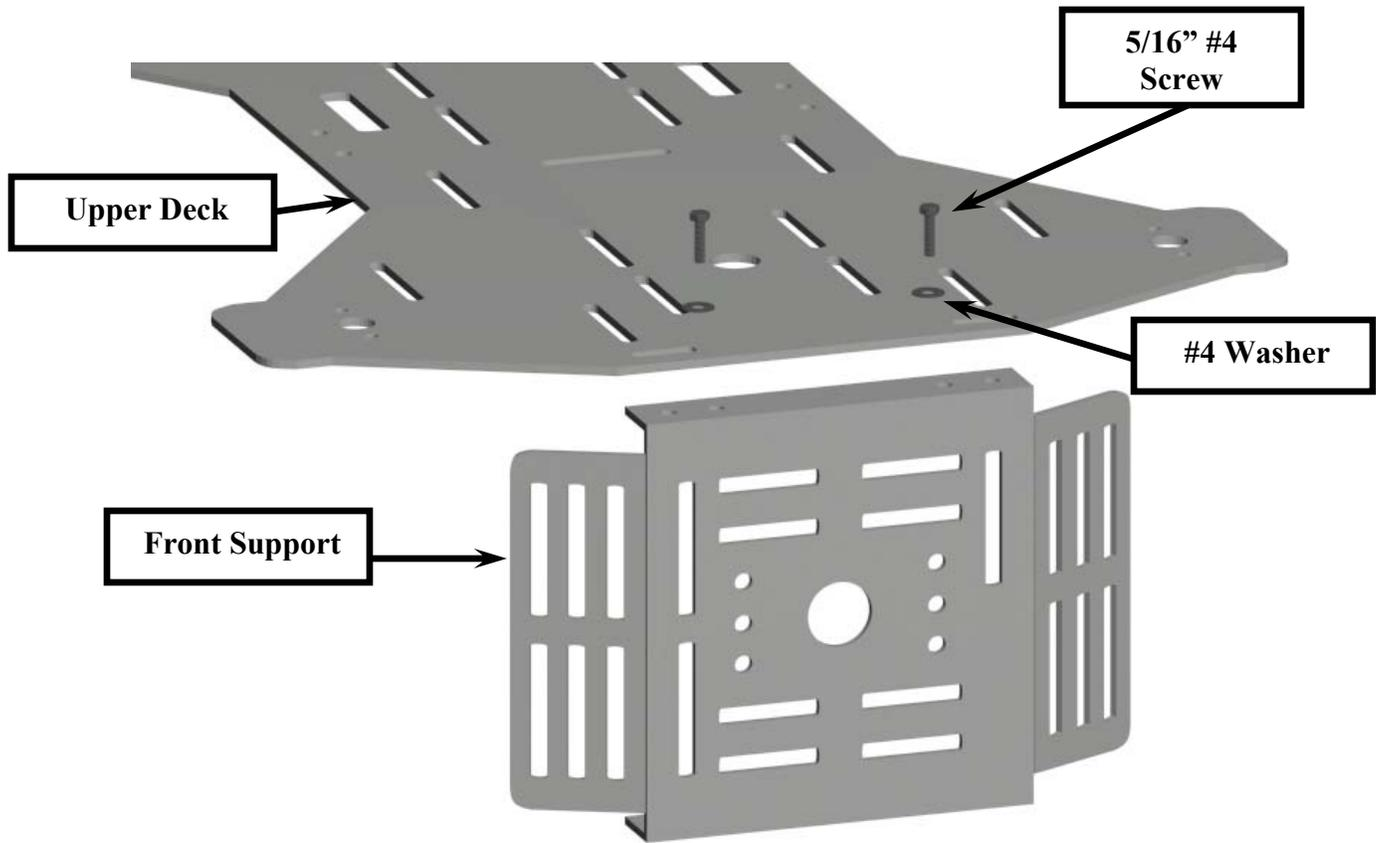
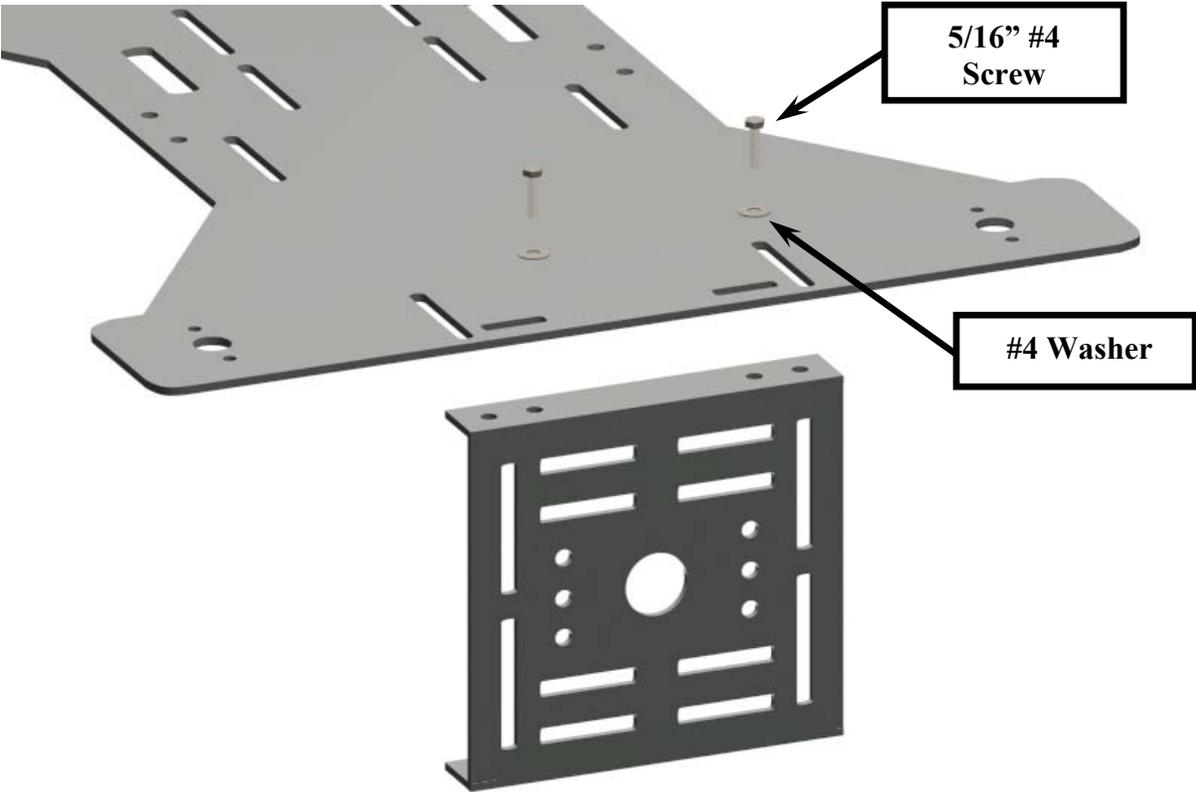

Figure 31
Figure 32
- Using (2) 5/16" #4 screws and washers, install the front and rear support brackets as shown in Figure 31 and Figure 32.